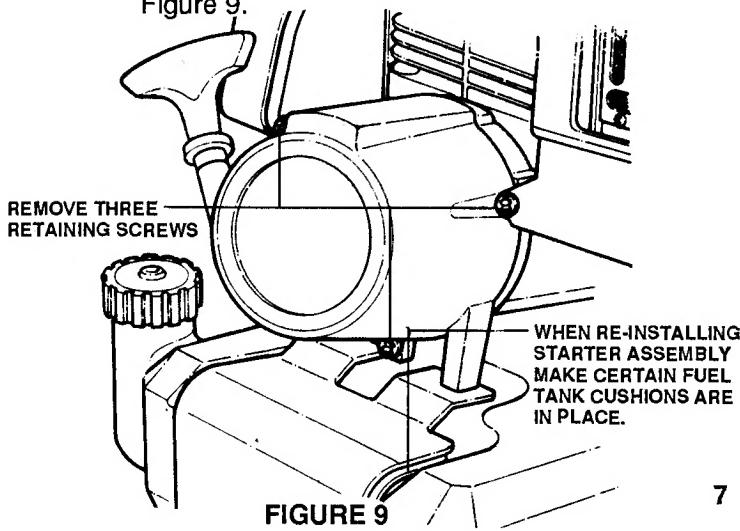

**FIGURE 8**
- The theory that an "ignition either works or does not work" is not always true. Electronic Ignitions can produce intermittent spark or spark only at certain temperatures. Refer to the troubleshooting guide when in doubt about ignition problems. Replace the ignition by removing the two retaining screws and disconnecting the module wires. See Figure 8.